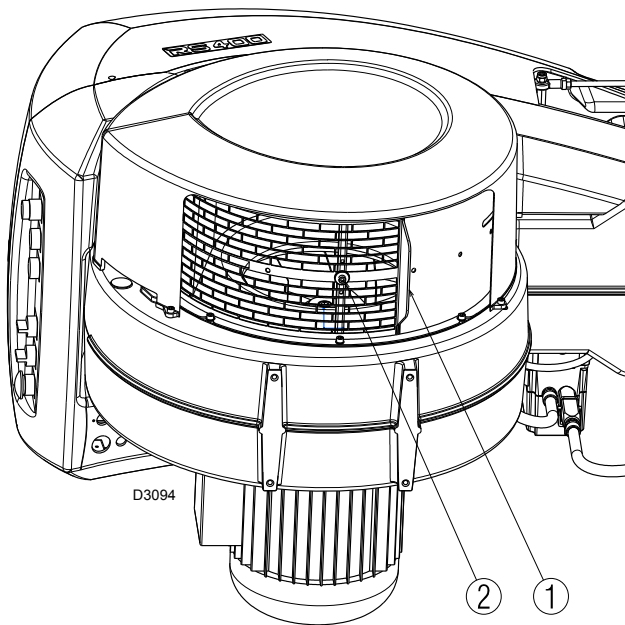

Fig. 25
- Loosen the screw 2)(Fig. 25) placed under the burner suction line and close progressively the grid 1) until the required output is reached.